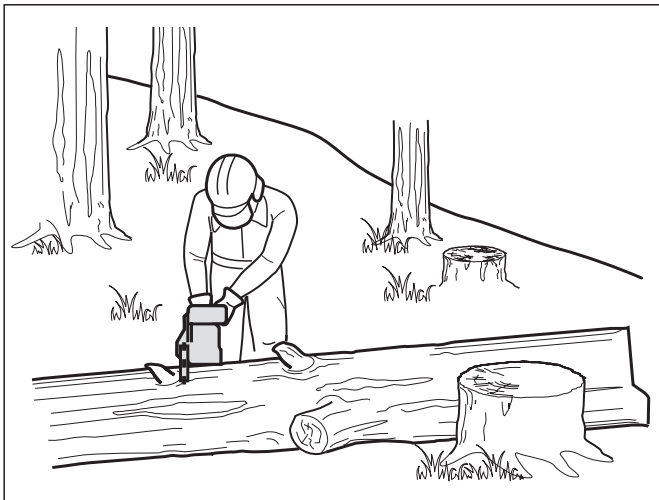

Fig. 28
4. When bucking on a slope always stand on the uphill side of the log. When “cutting through”, to maintain complete control release the cutting pressure near the end of the cut without relaxing your grip on the product handles. Do not let the chain contact the ground. After completing the cut, wait for the saw chain to stop before you move the product. Always stop the engine before moving from tree to tree(Fig.28).